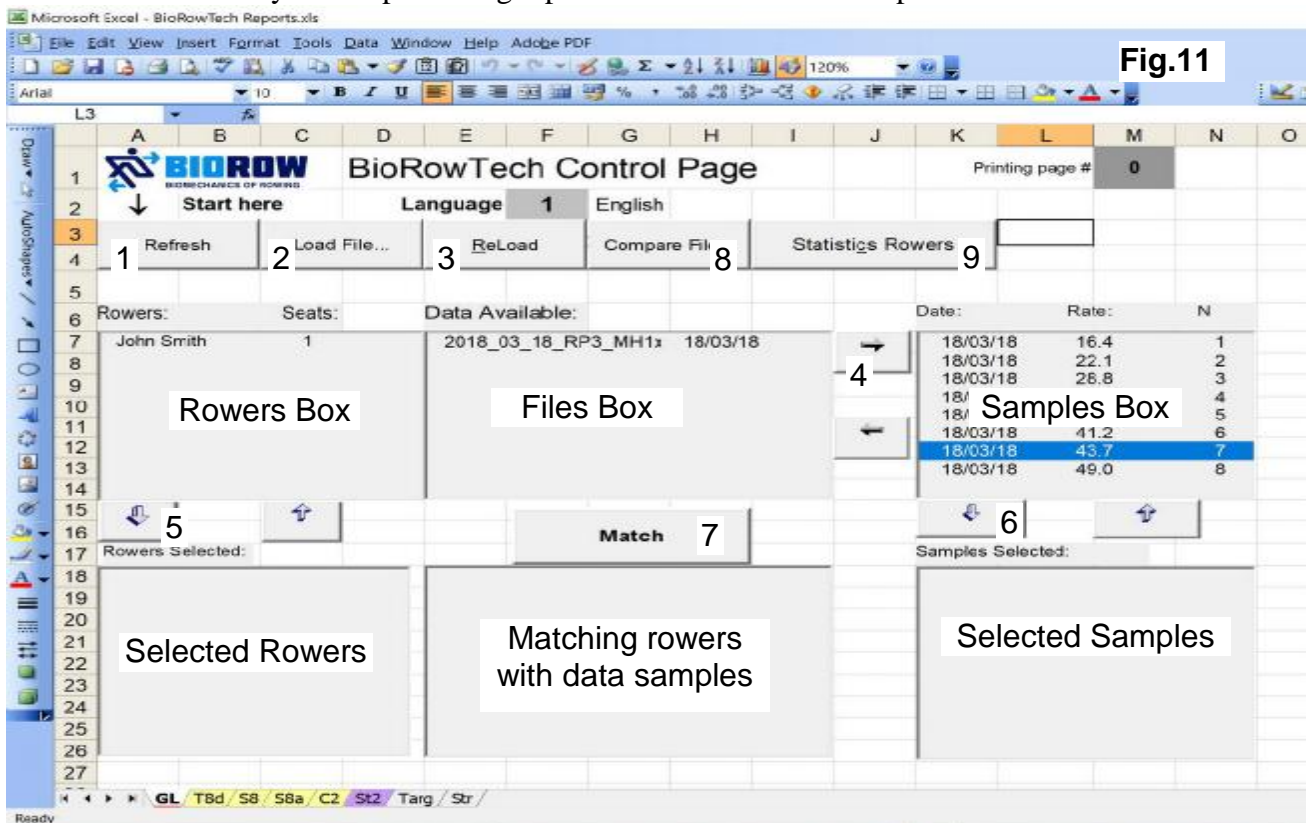

Fig.11
2. Activate the most left page “GL” marked with red colour in the bottom (fig.11).
3. If you want to use previous data, click “Refresh” (1) and the list boxes will be filled as it was before.
4. Click “Load File...” (2) button and select required data file to load a new data.
6. If you changed data file, click “ReLoad” (3) button and the current data file will be reloaded.
7. To see the samples in the loaded file(s), double click on its name in the Files Box, or select the name and click “→” button (4) next to it.